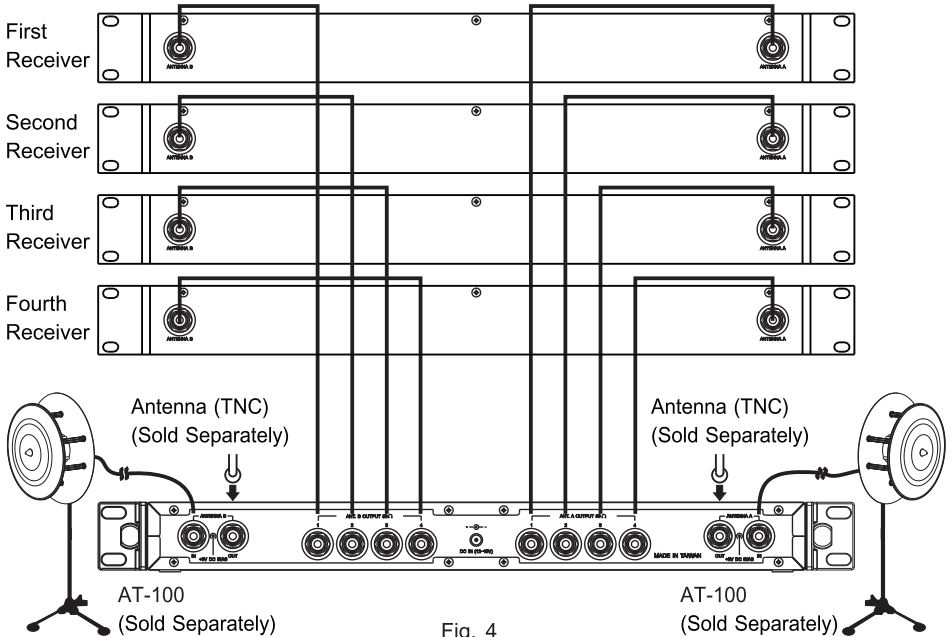
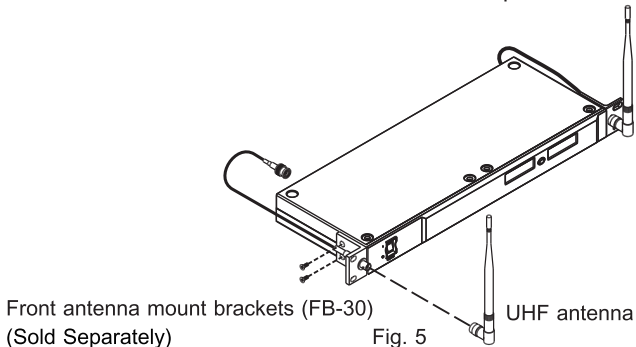

Fig. 4
Fig. 5
- (A) Use rack mount brackets (not included) and install this system with receivers on an EIA standard cabinet.
- (B) Use receiver antennas or AT-100's and install onto antenna-in connectors, see Fig. 4.
- (C) Connect antenna distribution output connector to antenna connector of each receiver via RG-58AU signal cable (included in the package).
- (D) MIPRO accessory, FB-30, front antenna mount brackets (not included) can also be installed at the front of the receiver to improve antenna reception, see Fig. 5.